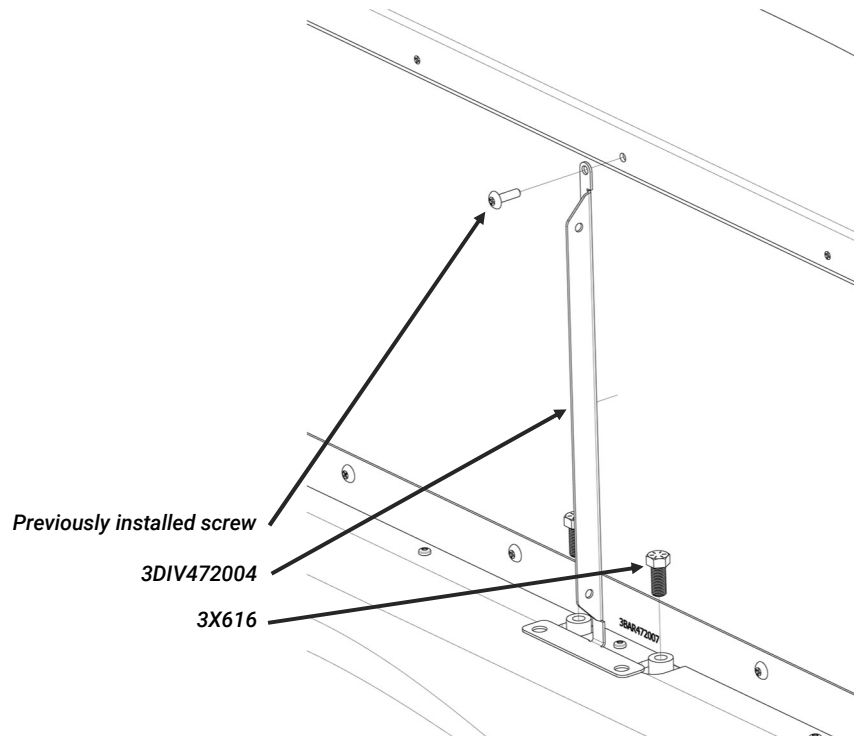

Figure 3
- E. Set a divider bracket [3DIV000000] onto the face of the recess panel [3REP472000] that faces the rear of the vehicle and align the holes in the bracket with (2) of the holes drilled in the previous step - place the flanged side of the bracket towards the driver side (the same orientation as those on the seat). Secure the bracket in place with (2) button head Torx fasteners [3X274] and (2) flange lock nuts [3X275] with the fastener head on the same side as the divider bracket.
- F. Proceed with the partition installation according to the partition install instructions. Set the partition location in the middle of the forward / backward adjustment slots and leave all (10) transverse fasteners between the Mounting Plates and the Partition / Lower Extension Panels loose.
- A. Locate the divider barrier bracket [3DIV472004]. If using the OSB belts, remove the bolts [3X616] from the upper inboard locations (Fig 3).